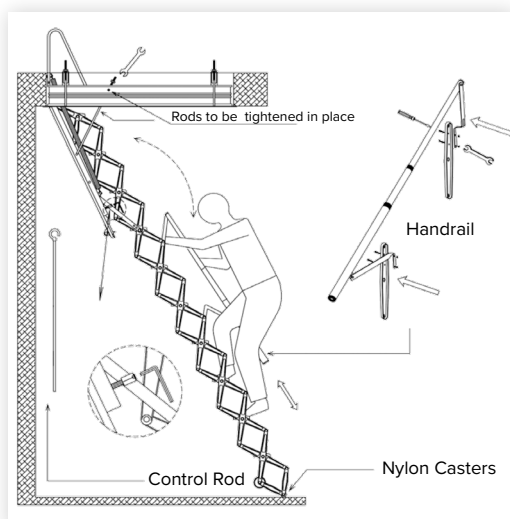

figure 9
4. Use the control rod to open the ladder from below, by inserting the hook on the control rod into the hook eye on the lid and pulling it open. Then extend the ladder until it reaches the floor. Securely rest the ladders two nylon casters firmly on the floor. Should the ladder need to be adjusted to the stud height of your house, you must adjust the rods, by either screwing down or screwing out both M10 nuts with a spanner. (The nuts must always rest simultaneously on the ratchets). Adjust treads to level. (Figure 9)
5. In the case that you have to fit a handrail on the ladder, you will need to fit it on when the ladder is unfolded. Place the handrail next to the ramp, with the "L" - shaped lever beside the bottom pre-drilled lever and the straight lever. Once the rail is placed correctly on the ladder you will need to use a screwdriver and spanner to bolt the rail to the side of the stair. (Figure 9)